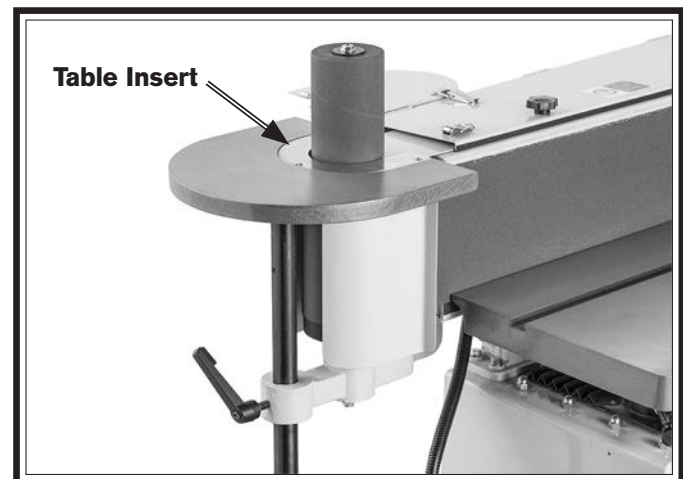

Figure 58. Table insert, sanding drum, and spindle installed.
8. Install smallest table insert that will fit around sanding drum with screws removed in **Step 5** (see **Figure 58**).